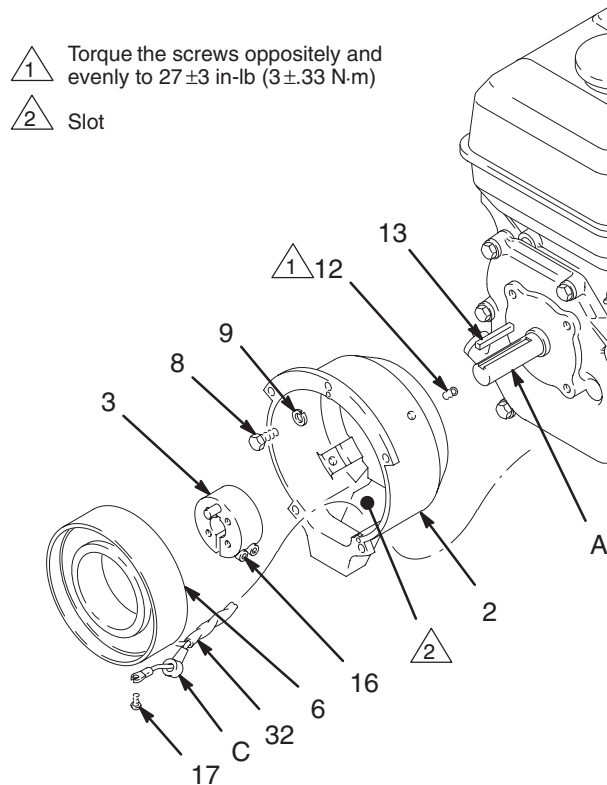

Fig. 17
1. Install the **clutch housing (2)**, capscrews (8) and lockwashers (9) on the engine. See Fig. 17. Torque the screws (8) to 200 ± 10 in-lb (23 ± 1.1 N·m)
2. Install the engine shaft **key (13)**. See Fig. 17.
4. Connect the wires of the wire harness (32) to the screws (17) in both places on the field (wires can be attached to either connection). Pull the plastic caps (C) up and snap them over the screws. Install the **field (6)** in the clutch housing (2). Work the wire harness through the slot in the clutch housing. With the setscrew holes in the field and the clutch housing (2) aligned, tighten the setscrews (12) oppositely and evenly, to 27 ± 3 in-lb (3 ± 0.33 N·m). See Fig. 17.